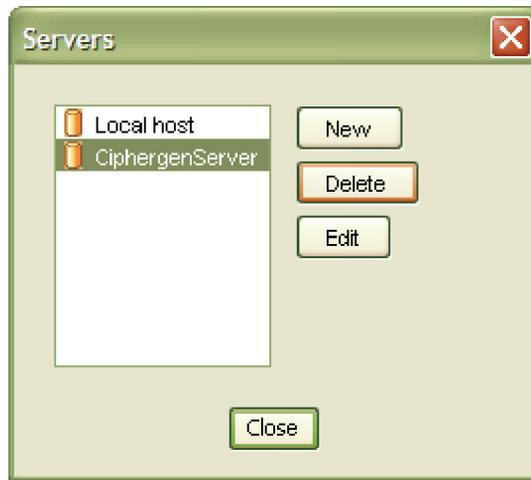

Fig. 29: The Servers dialog box.
2. In the **Login** dialog box, click the "..." button. This will open the **Servers** dialog box (Fig. 29).